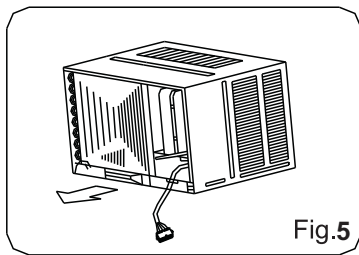

Fig.5
1. Grasp the handle on the chassis and carefully slide the air conditioner out of the cabinet (See Fig.5).